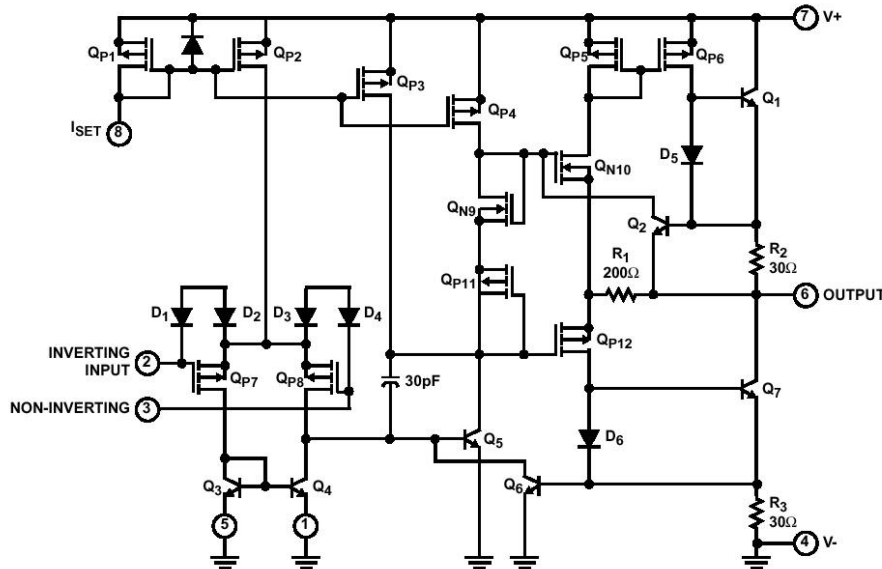

Figure 22. Internal circuit structure of CA3440 Low Power Operational Amplifier. Here V_{DD} is labeled as V_+ and V_{SS} is labeled as V_- .
- In order to understand the non-ideal behavior of Operational Amplifiers, we must refer to actual circuit implementations and examine these briefly. Figure 22 shows a typical Operational Amplifier circuit.